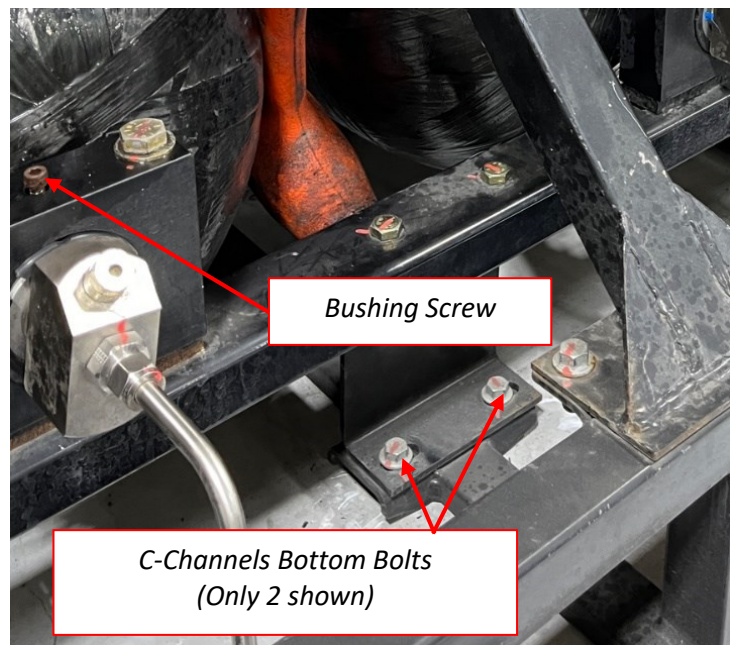

Figure 11 - Loosen bolts and Bushing screw.
3. Next loosen the bolts (4 X M10 bolts) only on the bottom on the C-Channels and loosen the bushing screws (5 X ¼" screws). (Do not completely remove the bolts or screws. Loosening the screws will allow the bushing slid easily inside the tank mounting blocks). Please see Figure 11.